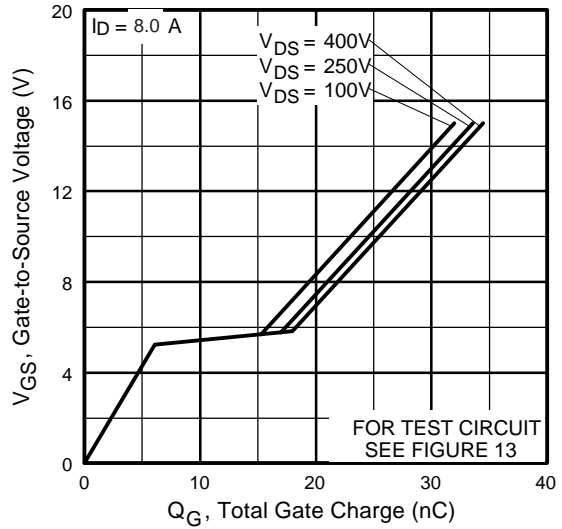

Fig 6. Typical Gate Charge Vs. Gate-to-Source Voltage
| Q_g | Total Gate Charge | — | — | 38 | nC | $I_D = 8.0A$ $V_{DS} = 400V$ $V_{GS} = 10V$, See Fig. 6 and 13 ④ |